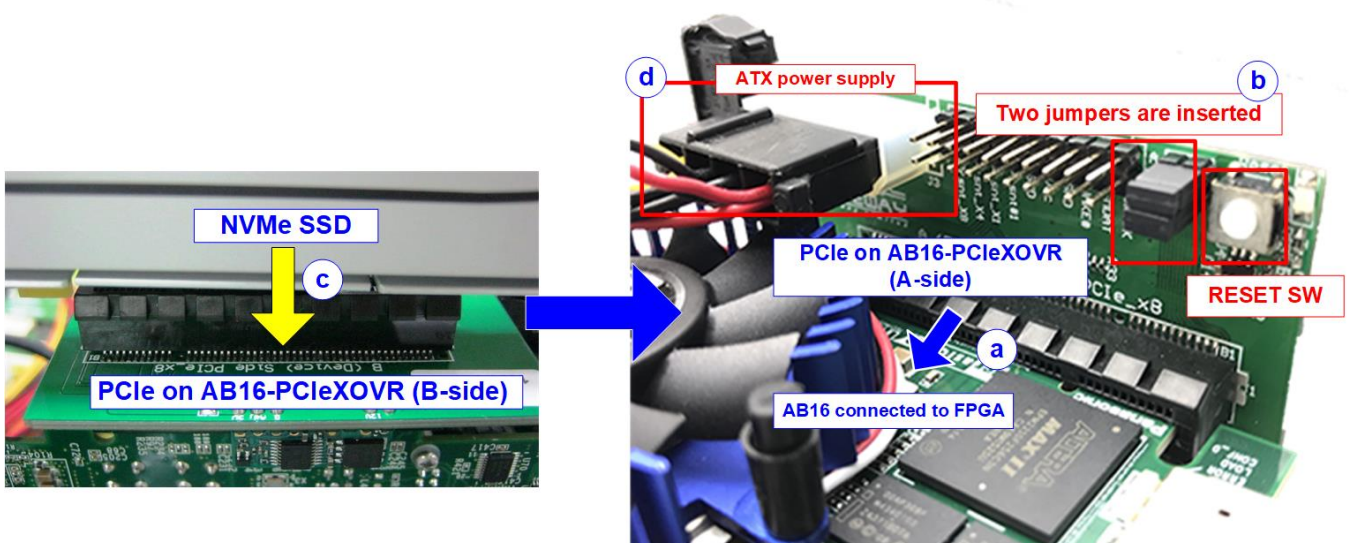

Figure 2-2 Connect PCIe connector between AB16 and FPGA board
- d. Connect ATX power supply to AB18/AB16-PCleXOVR and FPGA board as shown in Figure 2-2